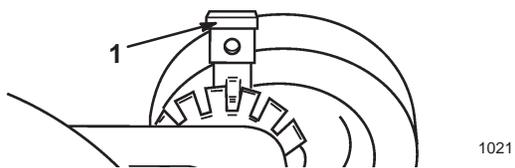

Figure 11
1. Pull the wheel height adjustment lever toward the wheel and move it to the desired position (Fig. 11).